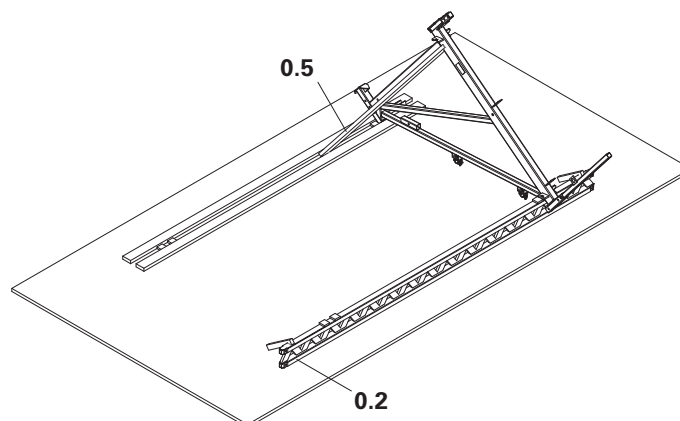

Fig. A1.03
- Diagonal bracing for securing bracket (0.5) 1 plank 40 x 120 mm, L = 2.0 m (Fig. A1.03)